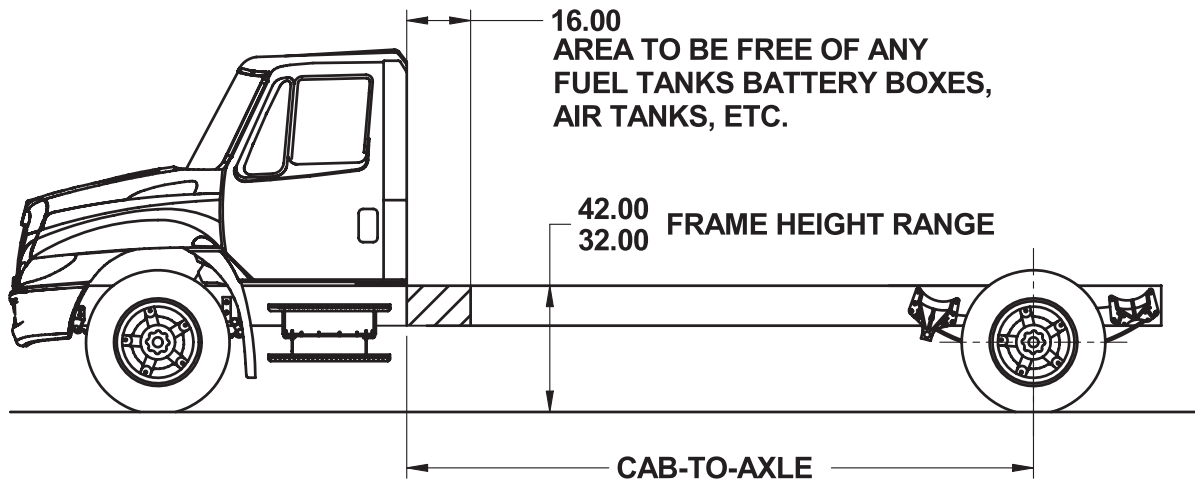

Figure 2 - Chassis Frame Preparation
1. Make sure the area 16" behind back the of cab on both outboard sides of the chassis frame are clear of any fuel tanks, battery boxes, air tanks, etc. If so, relocate components in accordance to the chassis manufacture. See *Figure 2*.